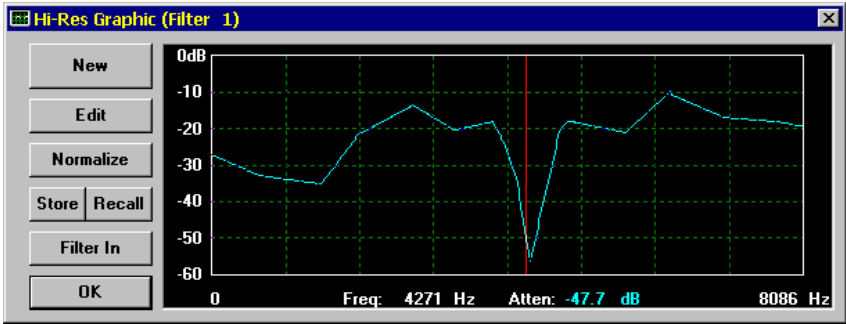

Figure 4-50 Completed Hi-Res Graphic Edit
9. Complete drawing the new portion of the filter curve as shown below (Figure 4-50) by drawing points all the way to the right edge of the edit region: